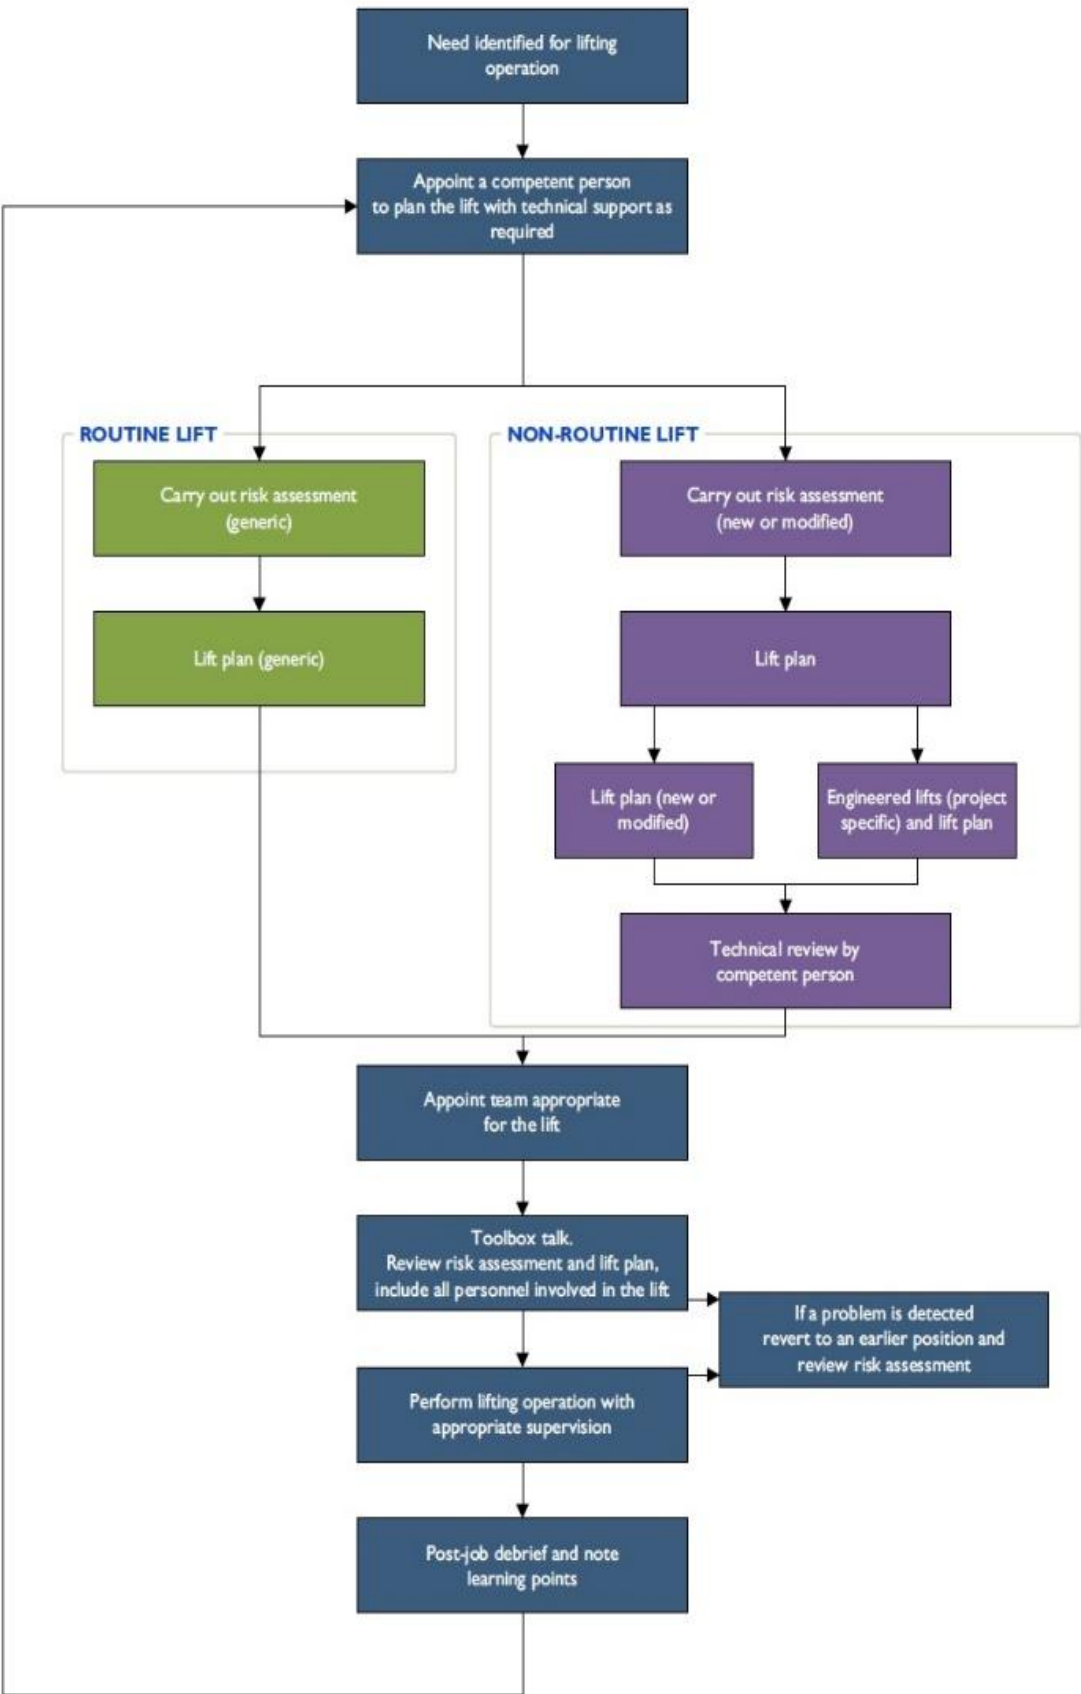

Figure 1: Areas of application
- The areas of application of the Softslings are non-routine lifting operations and routine lifting operations. (See Figure 1: Areas of application)